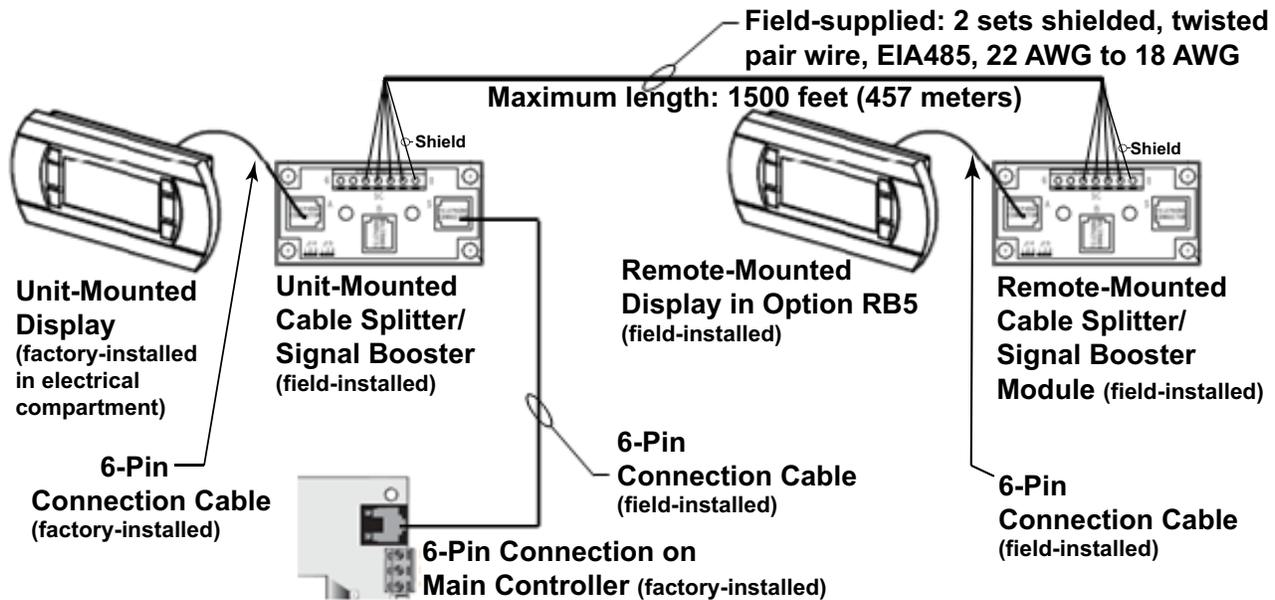

Figure 30. Overview of Option RB5 Wiring Connections
- c. Connect one end of new 6-pin connection cable (PN 260175) to main controller and other end to plug C (see Figure 30) on module installed in steps 2a through 2c.